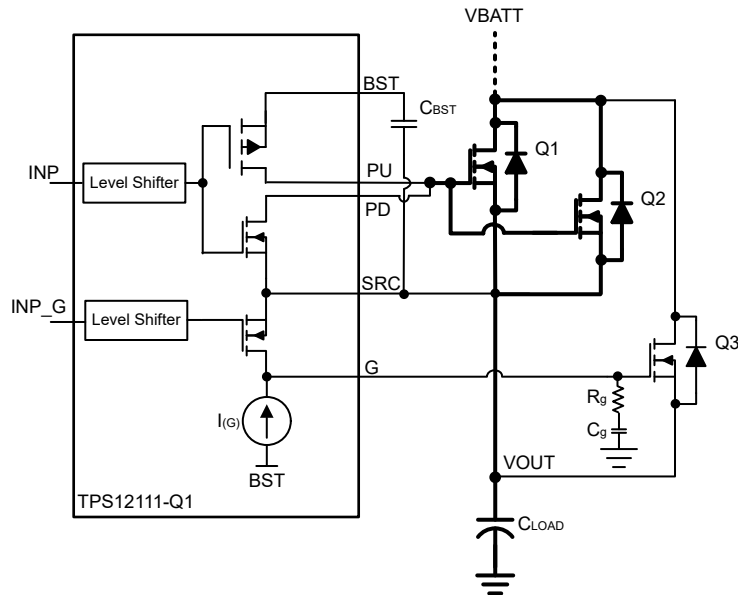

Figure 8-7. Capacitor Charging Using Gate Slew Rate Control of Precharge FET
The TPS1211-Q1 integrates precharge gate driver (G) with a dedicated control input (INP_G). This feature can be used to drive a separate FET that can be used to precharge the capacitive load. Figure 8-7 shows the precharge FET implementation for capacitive load charging using TPS1211-Q1. An external capacitor C_g reduces the gate turn-ON slew rate and controls the inrush current.